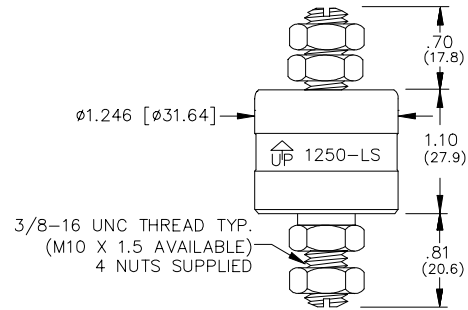

Fig 1 Dimensions: Inches [mm]
1. The Mercotac® model 1250-LS brushless slip rings are specifically designed for low rotating torque. They should only be used vertically. The "UP" arrow on the body of the slip ring indicates proper orientation. The slip ring should be used and stored upright. (arrow up). <Fig 1>